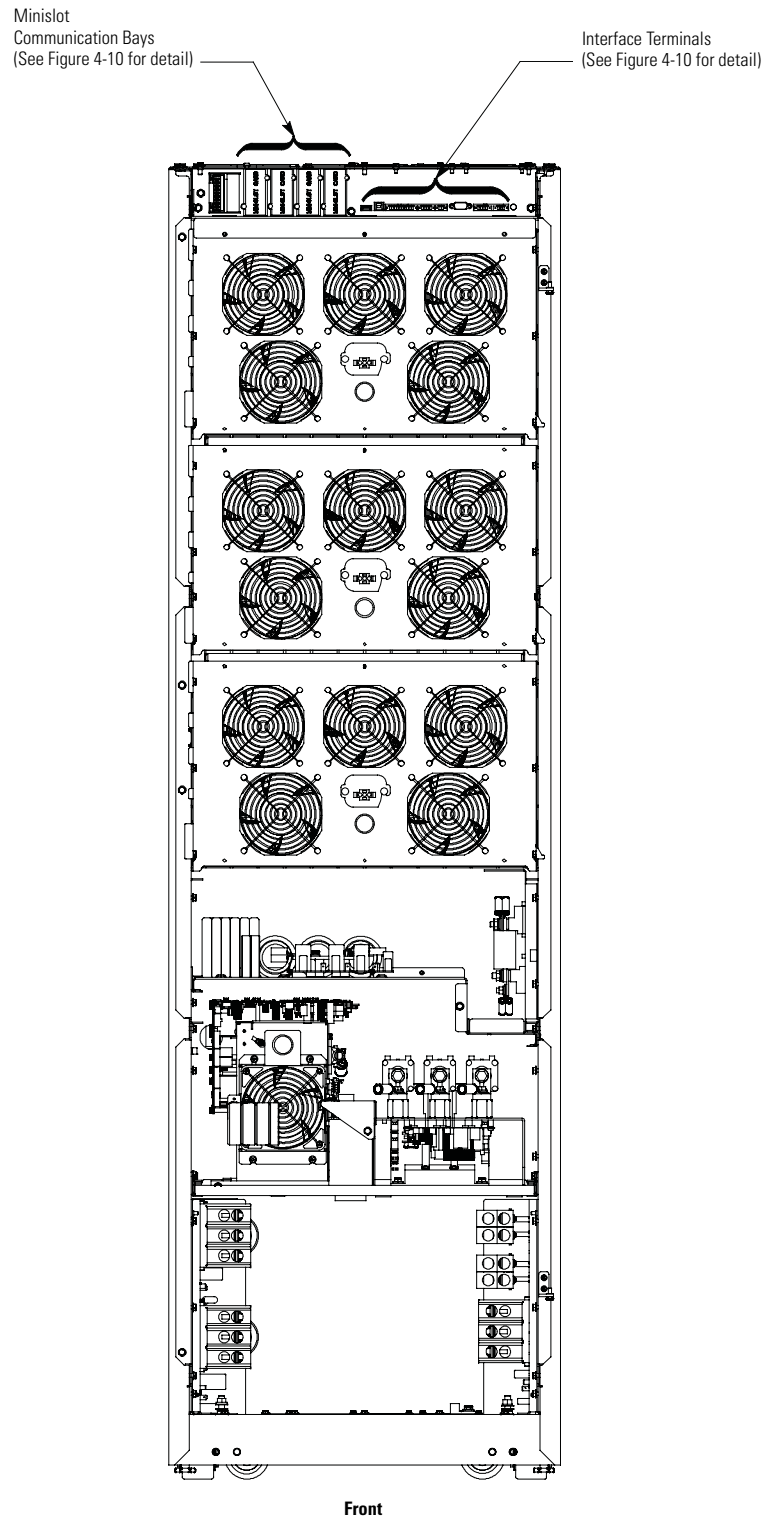
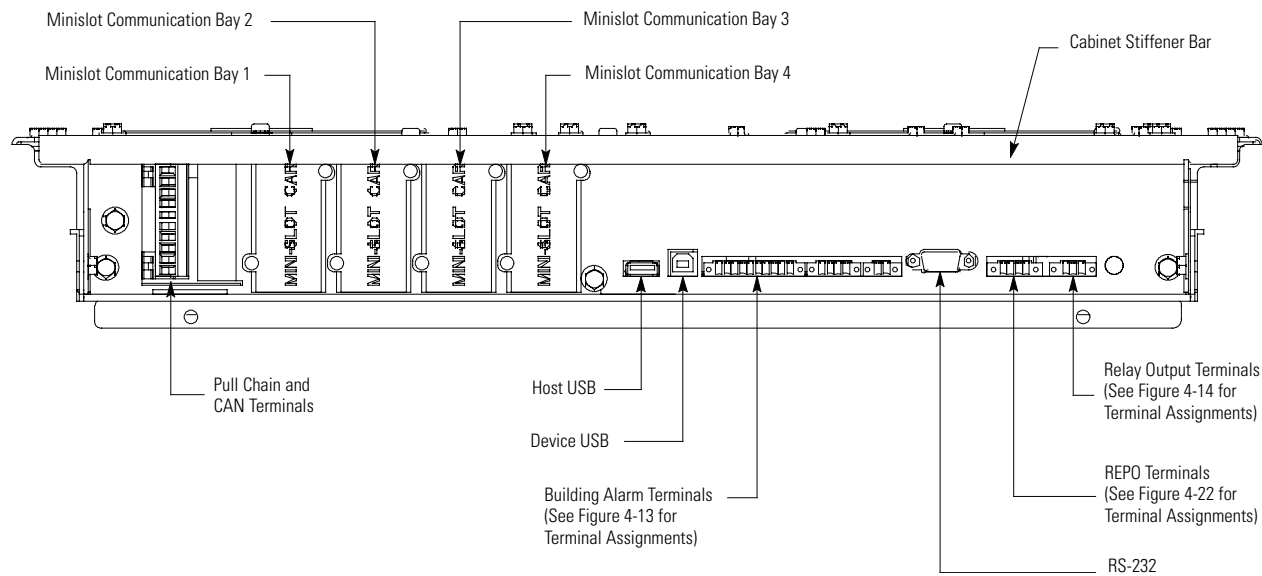
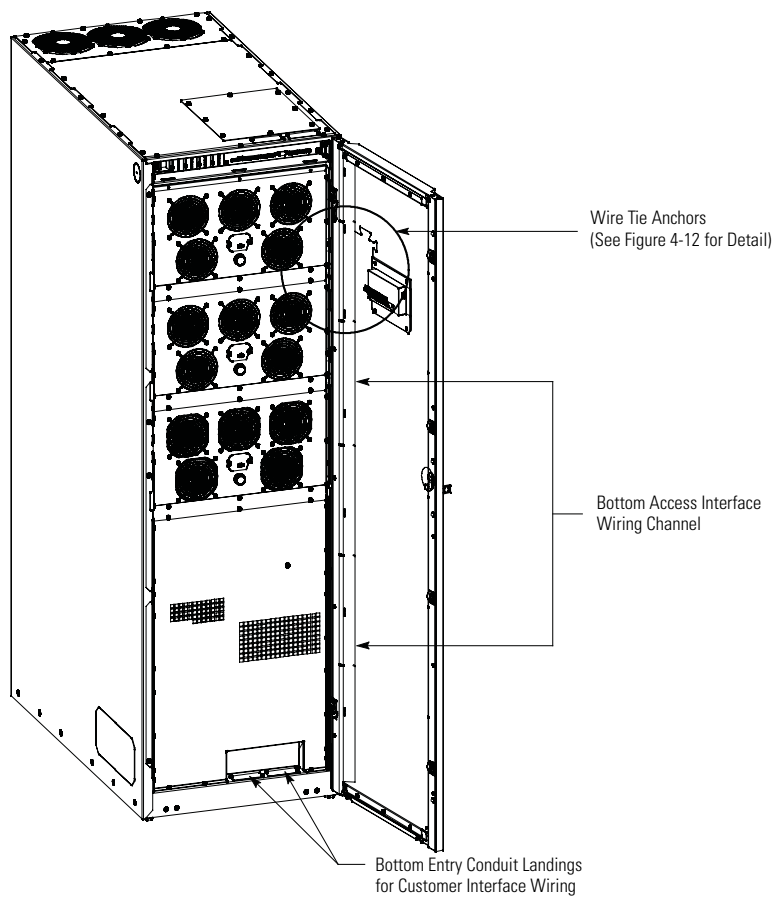

Figure 4-9. Interface Terminal Locations
Figure 4-10. Interface Terminal Detail
Figure 4-11. Bottom Access Interface Wiring Location
6. Route the UPS building alarm and relay output interface wiring through the top interface entry conduit landing plates to the UPS building alarm and relay output terminals. See Figure 4-4 for wiring access information and Figure 4-9 and Figure 4-10 for UPS interface terminal locations.
8. **Bottom Entry Wiring.** Remove the bottom interface entry conduit landing plates to drill or punch holes (see Figure 4-11).
10. Route the UPS building alarm and relay output interface wiring through the bottom interface entry conduit landing plates to the bottom access interface wiring channel along the inside of the front door (see Figure 4-11).
11. Route the wiring along the interface wiring channel (see Figure 4-11) to the UPS building alarm and relay output terminals. See Figure 4-9 and Figure 4-10 for UPS interface terminal locations.
- Pass-through Wiring.** Route the battery detect wiring from the battery cabinet through the top UPS inter-cabinet wiring access pass-through to the UPS building alarm terminals. See Figure 4-6 for UPS wiring access information and Figure 4-9 and Figure 4-10 for UPS terminal locations. Refer to the *Eaton 93PM Integrated Battery Cabinet Installation Manual-Large and Large High Rate*, listed in paragraph 1.8 for battery cabinet wiring access information and instructions.
6. **Bottom Entry Wiring.** Remove the bottom interface entry conduit landing plate to drill or punch holes (see Figure 4-11).
8. Route the battery detect wiring from the battery cabinet through the bottom interface entry conduit landing plate to the bottom access interface wiring channel along the inside of the front door (see Figure 4-11). Refer to the *Eaton 93PM Integrated Battery Cabinet Installation Manual-Large and Large High Rate*, listed in paragraph 1.8 for battery cabinet wiring access information and instructions.
9. Route the wiring along the interface wiring channel (see Figure 4-11) to the UPS building alarm terminals. See Figure 4-9 and Figure 4-10 for UPS interface terminal locations.
14. Route the battery detect wiring from the battery cabinet through the top interface entry conduit landing plate to the UPS building alarm terminals. See Figure 4-4 for wiring access information and Figure 4-9 and Figure 4-10 for UPS interface terminal locations. Refer to the *Eaton 93PM Integrated Battery Cabinet Installation Manual-Large and Large High Rate*, listed in paragraph 1.8 for battery cabinet wiring access information and instructions.